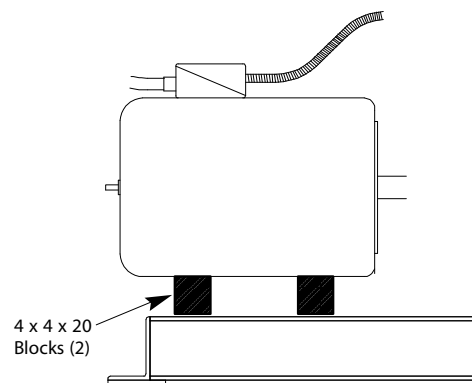

Figure 46 - Motor on Bedplate (resting on blocks)
8. Place two (2) 4" x 4" x 20" blocks on the bedplate, below the motor.
9. Lower the motor onto the two (2) 4"x 4"x 20" blocks until the motor is resting on the bedplate. See Figure 46.